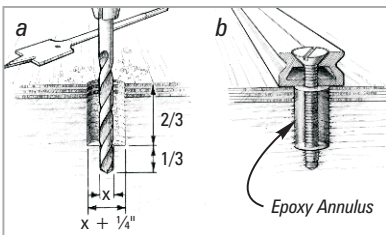

Figure 16 Drill oversized holes to increase the exposed substrate area and the amount of epoxy around the fastener.
1. Drill oversized holes $\frac{2}{3}$ – $\frac{3}{4}$ the depth of the fastener. The hole diameter is $\frac{1}{4}$ " larger than the fastener diameter (Figure 16-a).
5. Install the fasteners with just enough force to hold the hardware in place. Allow the epoxy to cure thoroughly before applying load to the hardware (*Figure 16-b*).